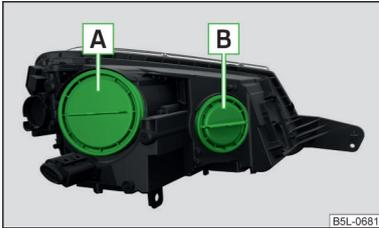

Fig. 197
Bulb arrangement » Fig. 197
Turn the respective protective cap » Fig. 197 on page 218 counter-clockwise and remove.
- Insert the respective protective cap » Fig. 197 on page 218 and rotate it clockwise until it stops.